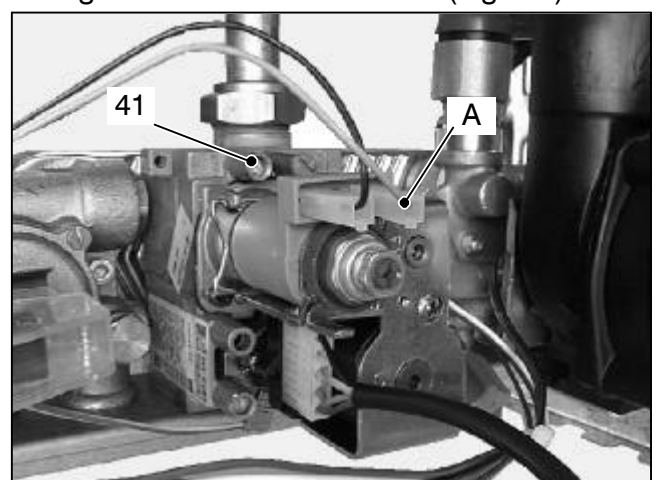

Fig. 7.4
- 2 Loosen the internal screw 41 (Fig. 7.4) on the Outlet Pressure Test Point of the Gas Valve and connect a pressure gauge using a suitable hose.
- 8 Disconnect the gas modulator coil by removing the electrical connector A (Fig. 7.4).
- 3 Unscrew the gas valve's outlet pressure test point 41 (Fig. 7.4) and connect a pressure gauge.